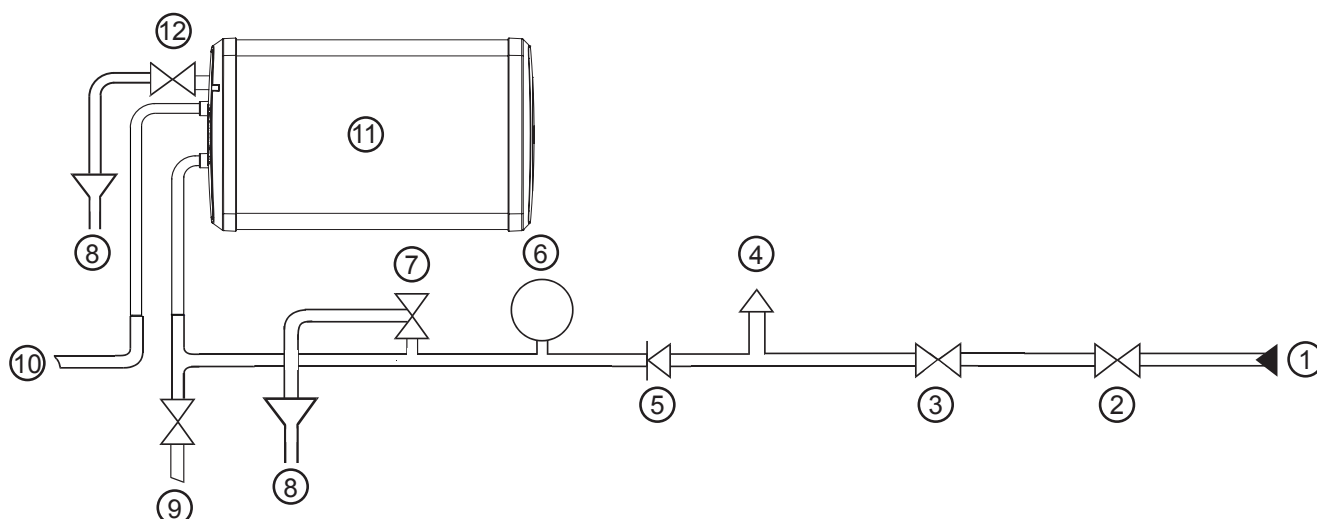

Figure 6: Typical installation - schematic (not to scale)
Refer to the installation schematic (figure 6, page 11) for details on the pipework layout. Specific details for the discharge pipework layout is also provided in figure 7 on page 14.
- ▶ A stopcock or servicing valve must be incorporated into the cold water supply to enable the water heater and its associated controls to be isolated and serviced. See figure 6 for position.
- ▶ The location of the expansion vessel should allow access to recharge the pressure as and when necessary (see page 18). See figure 6 page 11 for positioning.